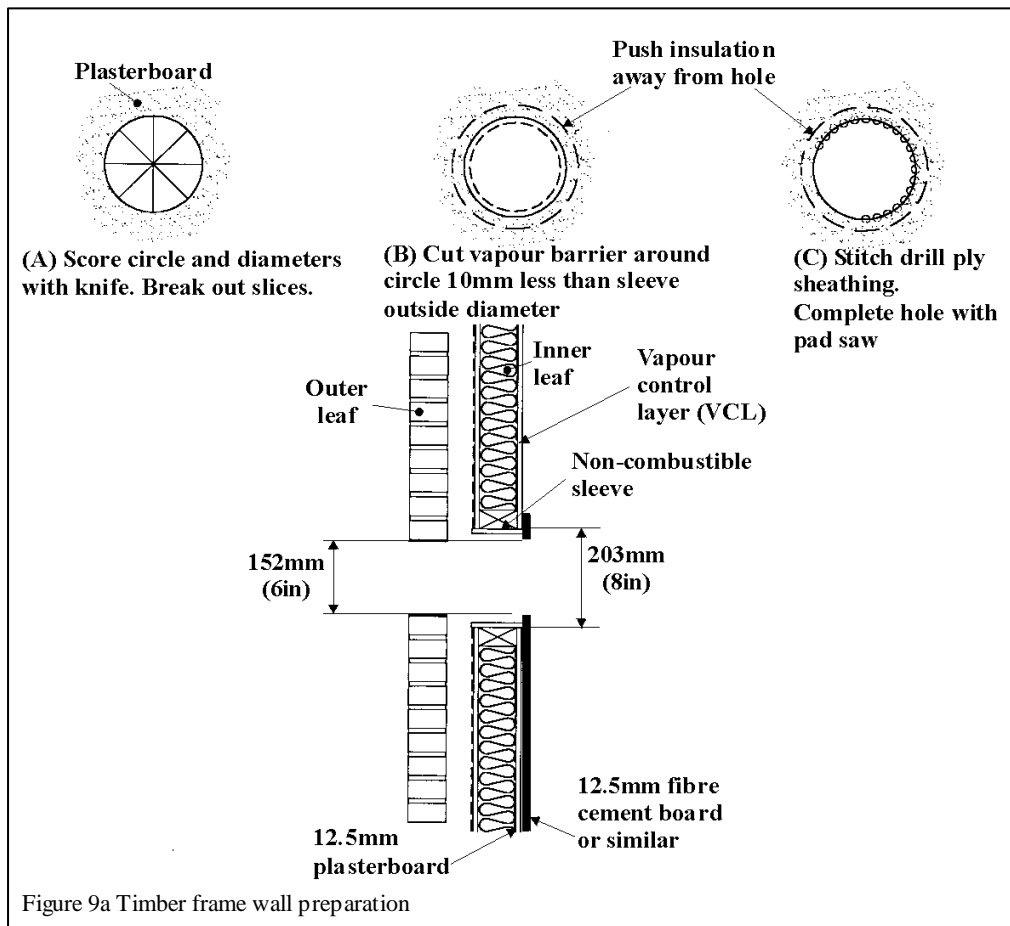

Figure 9a Timber frame wall preparation
- Since the flue will pass through combustible material in the inner leaf of the wall, a non-combustible sleeve 203mm (8in.) diameter will be required round the flue. See figure 9a.
- Cut a hole through the inner leaf to accommodate a non-combustible sleeve 203mm (8in.) outside diameter. To minimise the effect of breaking through the vapour control layer (VCL), if possible, cut the hole approximately 10mm undersize in so that the sleeve will be forced through the layer. A recommended technique for cutting the inner leaf is shown in figure 9a.